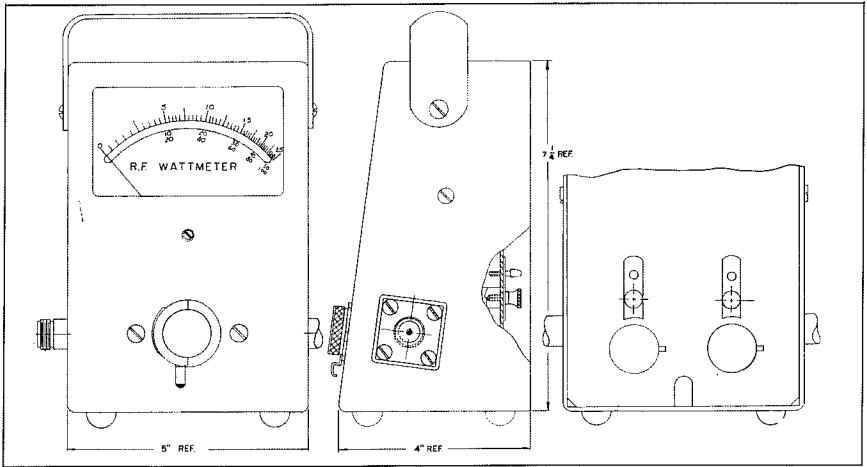

Figure 1. Wattmeter Overall Dimensions
3.1 DIRECT INSTALLATION. Connection may be made directly to the quick-match RF connectors mounted on the internal line section. Make connections with any suitable coaxial cable of 50-ohm impedance. Connect the power source to one side of the wattmeter and connect the load to the opposite side. Power source and load can be connected interchangeably, since the direction of the plug-in detector element selects whether forward or reflected power will be sensed by the meter. Refer to figure 1 for dimensions of the wattmeter unit. Use only 50-ohm impedance cables for making connections to the wattmeter unit. Impedance mis-match can introduce inaccuracies in the power reading. Calculations of inaccuracies resulting from impedance mis-match are discussed in paragraph 5.1 on page 12.